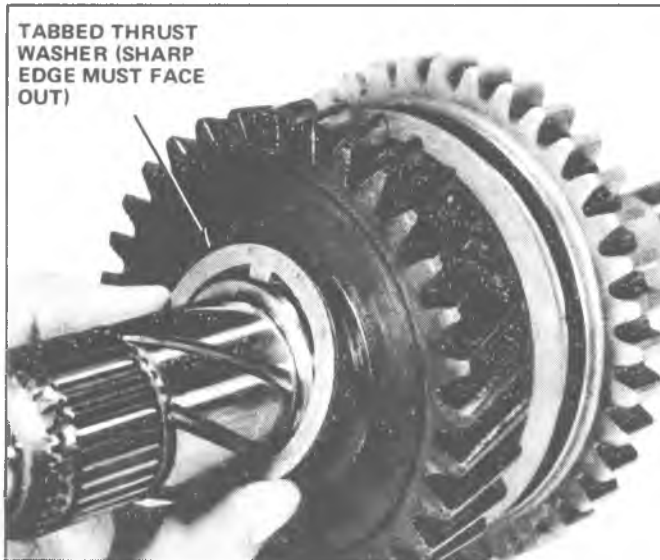

Fig. 7B-18B--Installing Tabbed Thrust Washer
3. Install spring in First-Reverse hub. (Make sure spring is bottomed in hub and covers all three key slots.) Position three synchronizer keys in hub, with small ends in hub slots and large ends inside hub. Push keys fully into hub so they seat on spring. Then slide First-Reverse sleeve and gear over keys until the keys engage in the synchronizer sleeve (Fig. 7B-13B).